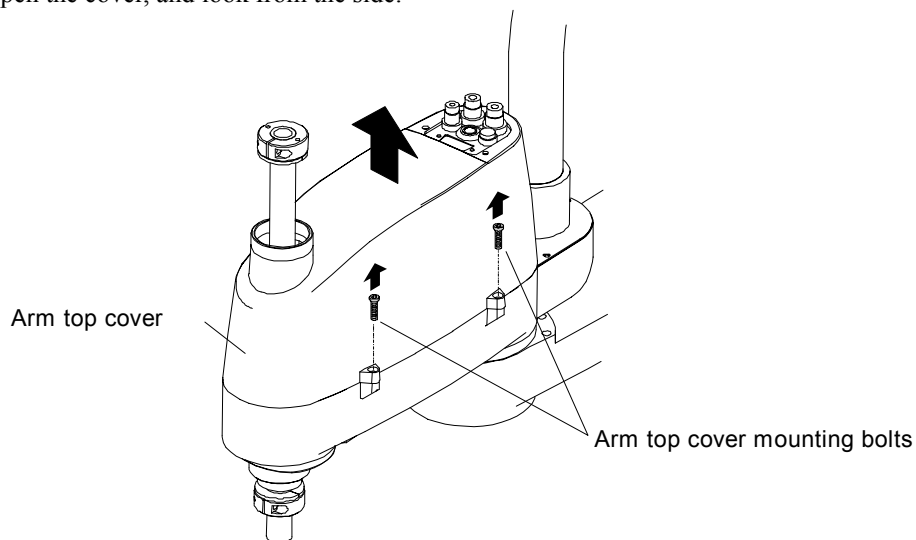

Figure 32. Arm top cover
- (11) If you need a clear view, remove four mounting bolts (See Figure 32) from the arm cover, open the cover, and look from the side.